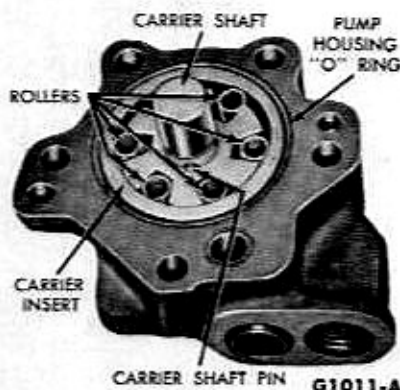

FIG. 7—Pump Housing, Carrier and Shaft
6. Remove the O-rings from the flow director and the carrier insert (Fig. 7).
9. Remove the carrier retaining ring from the shaft, slide the carrier off the shaft, and remove the carrier shaft pin (Fig. 7). **Avoid scratching the shaft while removing the ring.**
5. Place a new O-ring in the groove around the insert in the pump housing, and install a new flow director O-ring in the face of the housing (Fig. 7).